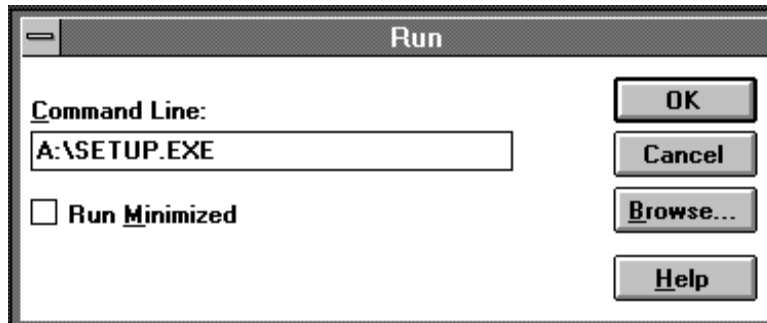

Figure 3-2 Entering the Command Line
4. Type A:\SETUP.EXE or B:\SETUP.EXE at the command line. See Figure 3-2.